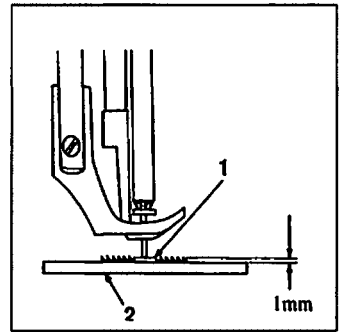

Fig.19
16. Adjustment of the height of the feed dog (Fig.19):